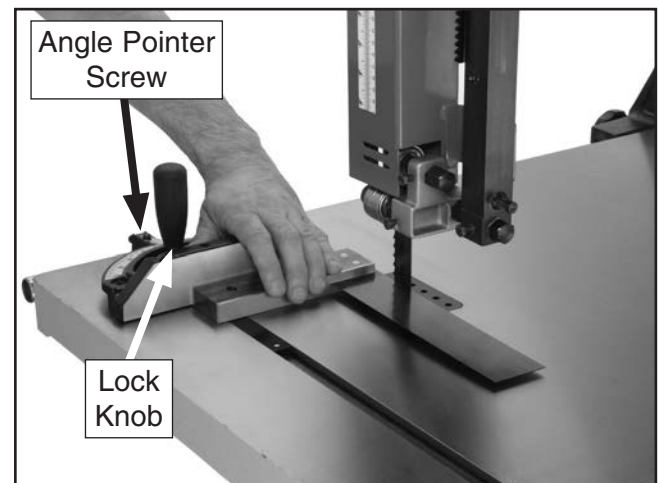

Figure 43. Example of squaring miter gauge to blade.
1. Place one edge of a machinist's square against the face of the miter gauge and the other against the blade face, as shown in **Figure 43**.